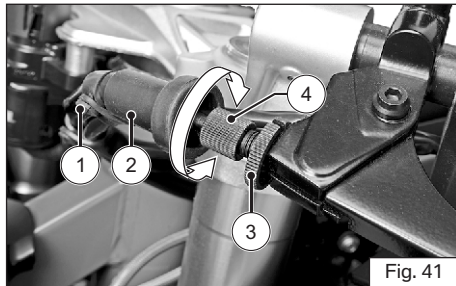

Fig. 41
- ◆ Remove the cable clamp (1). Pull back the dust cover (2) of clutch lever (ref. Fig. 41).
- ◆ Loosen the lock nut (3) and turn the adjuster (4) 'in' or 'out' till the specified play is obtained (ref. Fig. 41).
- ◆ Lock the lock nut (3) again.
- ◆ Re-fix the dust cover (2) and cable clamp (1).
- ◆ Loosen the lock nut (5) at the bottom end of the clutch cable (ref. Fig. 41).